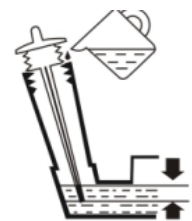

Figure 10
3. The oil level shall be between the marks "HIGH" and "LOW". See Figure 10.
4. It necessary fill with oil up to the FULL mark .See Figure 10.